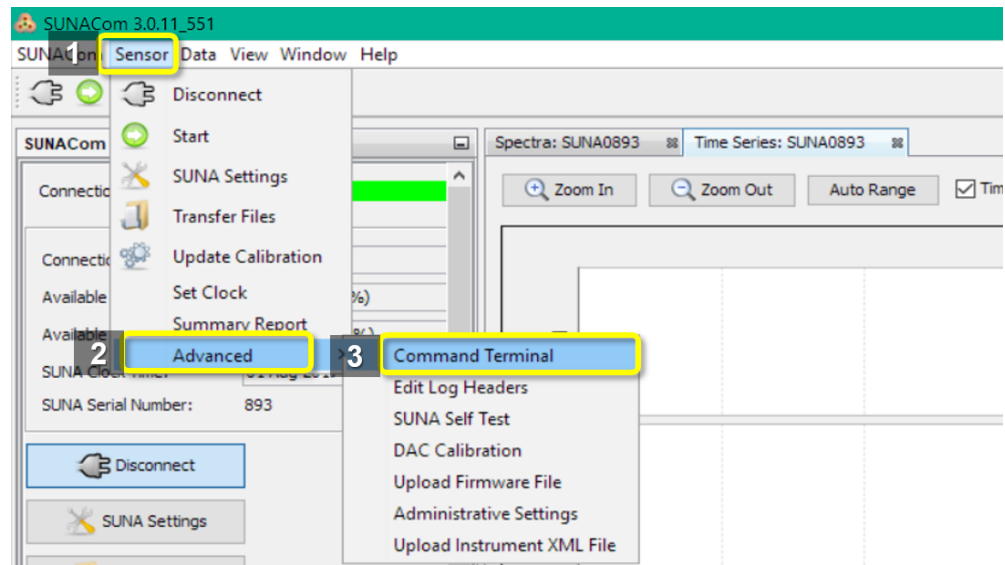

Figure 110. Select "Sensor>Advanced>Command Terminal" from Dropdown
- In the upper right hand corner, select the **"Sensor"** dropdown (see Figure 110).